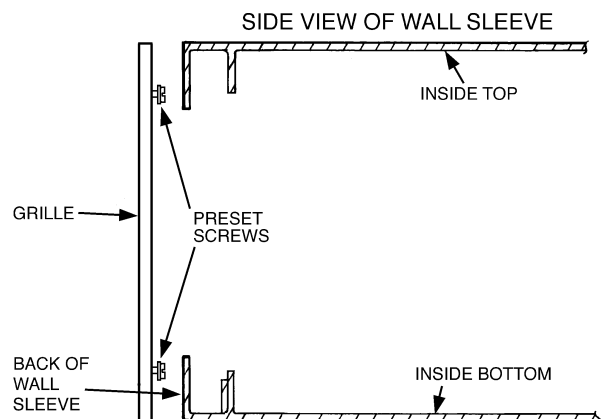

Fig. 3 — Inserting Stamped Aluminum Grille Into Wall Sleeve
2. Firmly grasp grille by foam seal strips and position grille to outside of wall sleeve. See Fig. 3.